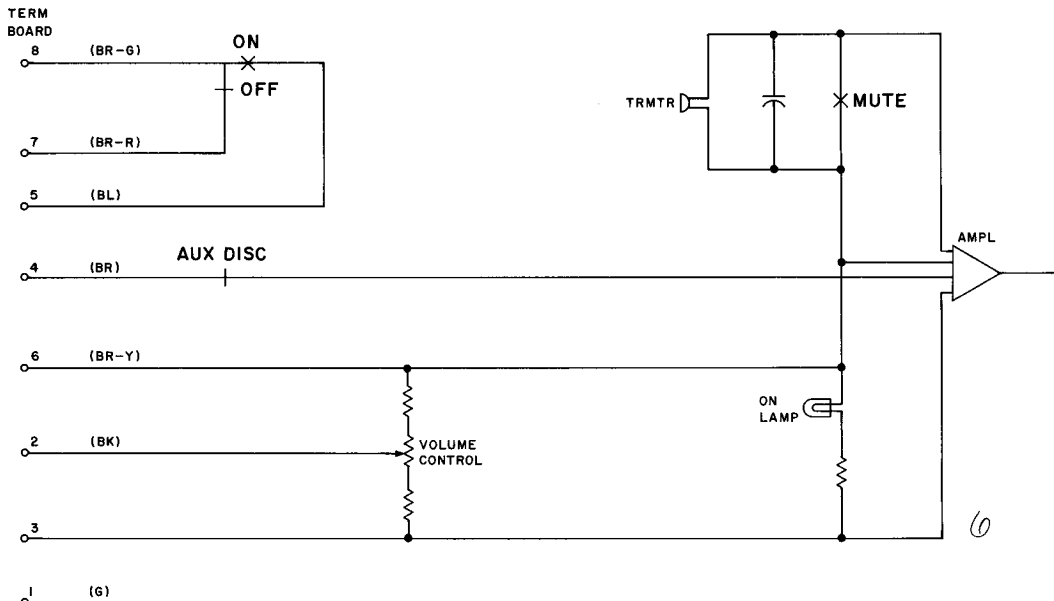

Fig. 6—670A (MD) Transmitter
2.10 External 670A (MD) and 671A (MD) and are used in conference arrangements of 3-type speakerphone.
- 670A consists of an AC1 transmitter unit, transistorized amplifier, ON-OFF switch with 2-position ON switch for control of auxiliary 671A transmitters, volume control, plastic housing, and T9A mounting cord (Fig. 6).